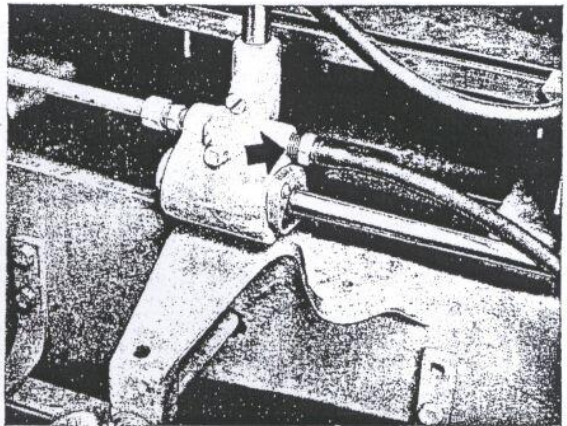

Figure 36—Hose Connection For Servicing Air System
(1) With feeder swung away from press, remove the $\frac{1}{4}$ " plug located at the bottom of feeder table blower nozzle tube and screw in nipple attached to special hose supplied with press (see figure 36).
(2) Remove vacuum hose from separator shoe and attach opposite end of special hose to shoe nipple.
(3) Start press motor, thereby supplying air blast through separator shoe.
(4) After shoes are blown clean, remove special blast hose and replace shoe vacuum hoses.
(5) Disconnect special blast hose from feeder nozzle tube and replace plug previously removed. (If transfer table or cylinder air lines are to be cleaned at this time, leave special blast hose connected to feeder nozzle tube.)
of feeder table blower nozzle tube and screw in nipple attached to special hose supplied with press. (See figure 36.)
(2) Pull out cylinder collar spring pin and then turn cylinder manually to its open position.
(3) Remove $\frac{1}{4}$ " plug at bottom of feeder blower nozzle table and screw in nipple attached to special hose supplied with press. (See figure 36.)
(4) Disconnect short hose from cylinder air tube, at right end of cylinder and adjacent to right transfer table lever air nipple.
(5) At inside of cylinder, disconnect the two hoses connected to cylinder gripper suction tubes